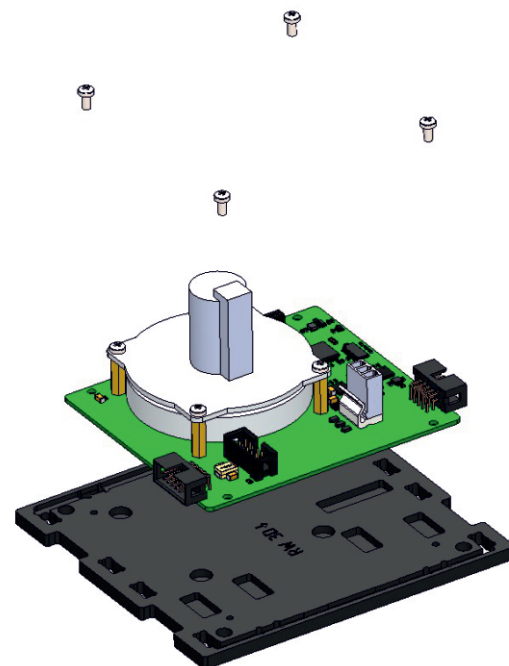

Fig. 55: Mounting the RW board on the base plate
1) Place the reaction wheel board (marked as “RW3D↓”, with side connectors soldered on), then secure the board with four M3x6 cylindrical-head screws (Fig. 55):